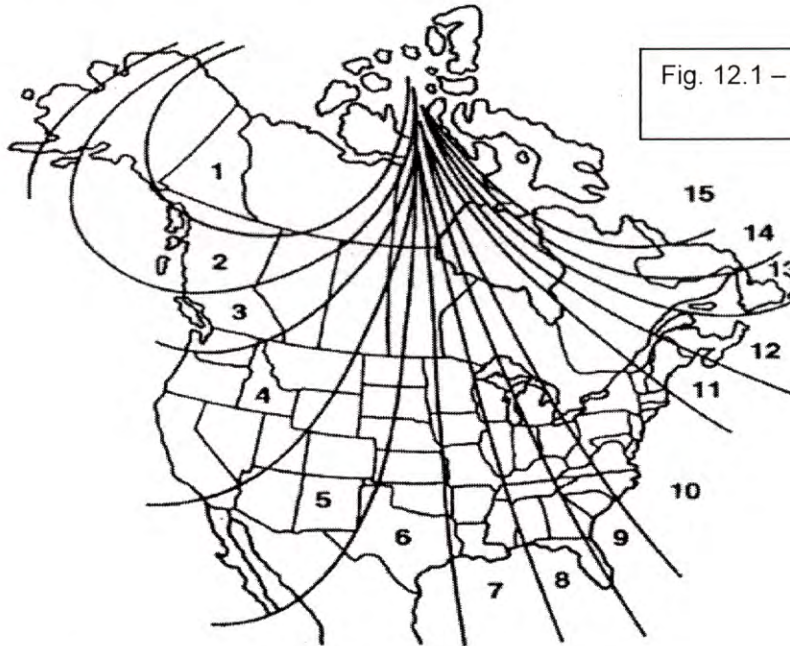

Fig. 12.1 – Compass Zone Map
Push and Hold Approximately 4 seconds and release.	Compass Zone Change Mode: <ul style="list-style-type: none"> • Refer To Compass Calibration Zone Map below (See Fig. 12.1) to verify compass zone setting for your geographical location. • Push and hold the right button until "ZONE" appears in the display. • Push same button repeatedly until the desired compass zone number is shown. • The display will change back to the compass direction after three seconds if the button is not activated.
Push and Hold Approximately 8 seconds and release	Compass Zone Change Mode: <ul style="list-style-type: none"> • Refer To Compass Calibration Zone Map below (See Fig. 12.1) to verify compass zone setting for your geographical location. • Push and hold button until "ZONE" appears in the display. • Push same button repeatedly until the desired compass zone number is shown. • The display will change back to the compass direction after three seconds if the button is not activated.
- 12.1 Compass Zone Adjustment - **NOTE:** The zone setting is factory preset to Zone 8. Refer to Compass Calibration Zone Map (See Fig. 12.1) to verify the correct compass zone setting for your geographical location.